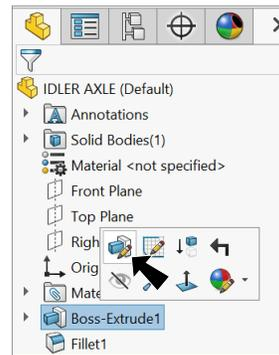

Fig. 19
Step 1. Click **Boss-Extrude1**  in the Feature Manager and click **Edit Feature**  in the context toolbar, **Fig. 19**.